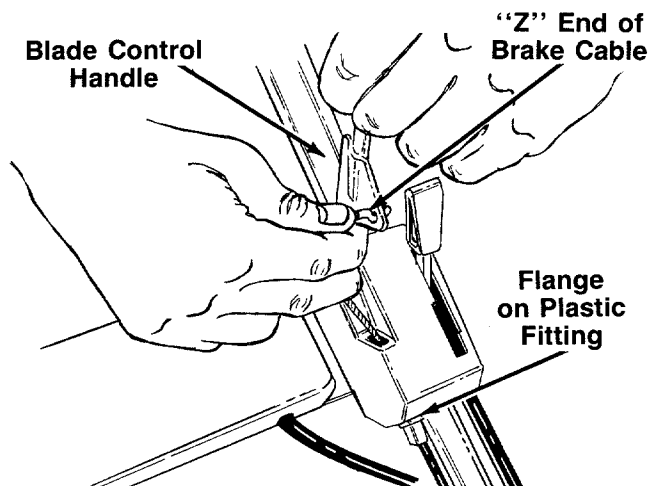

FIGURE 5.
6. Snap the plastic fitting on the end of the cable into the control housing. Hook the "Z" end of the brake cable into the hole in the blade control handle. See figure 5.